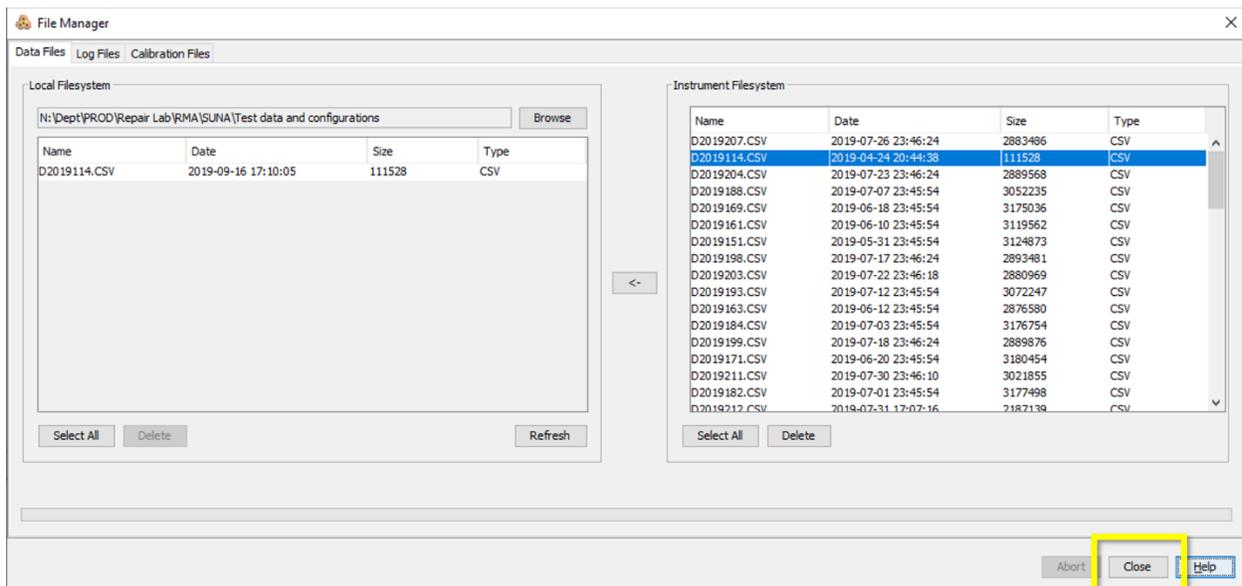

Figure 7. Click Close to Close the File Manager Pop-up Window
- When complete, click **Close** to close the **File Manager** pop-up window (Figure 7).